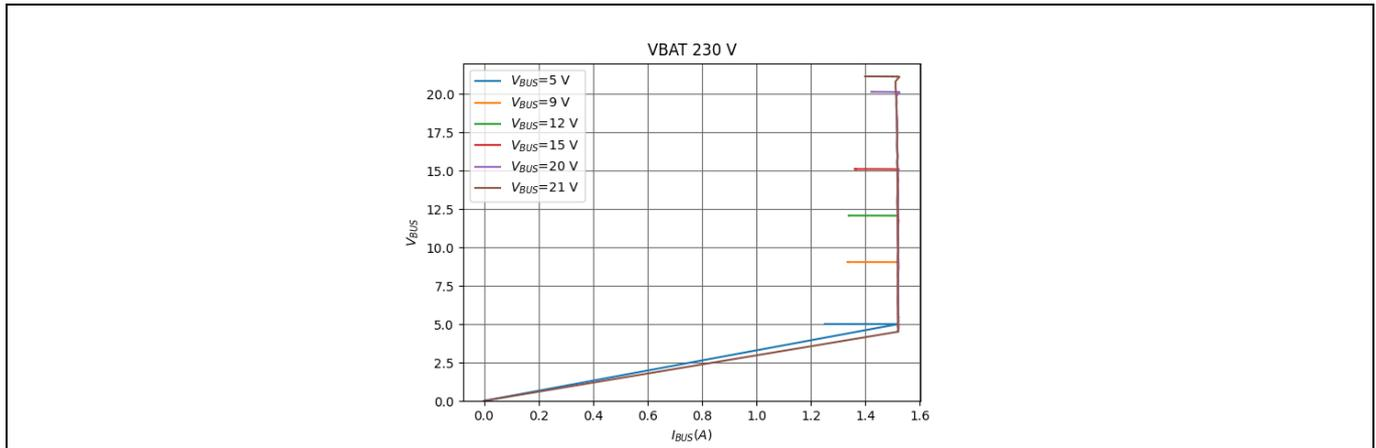
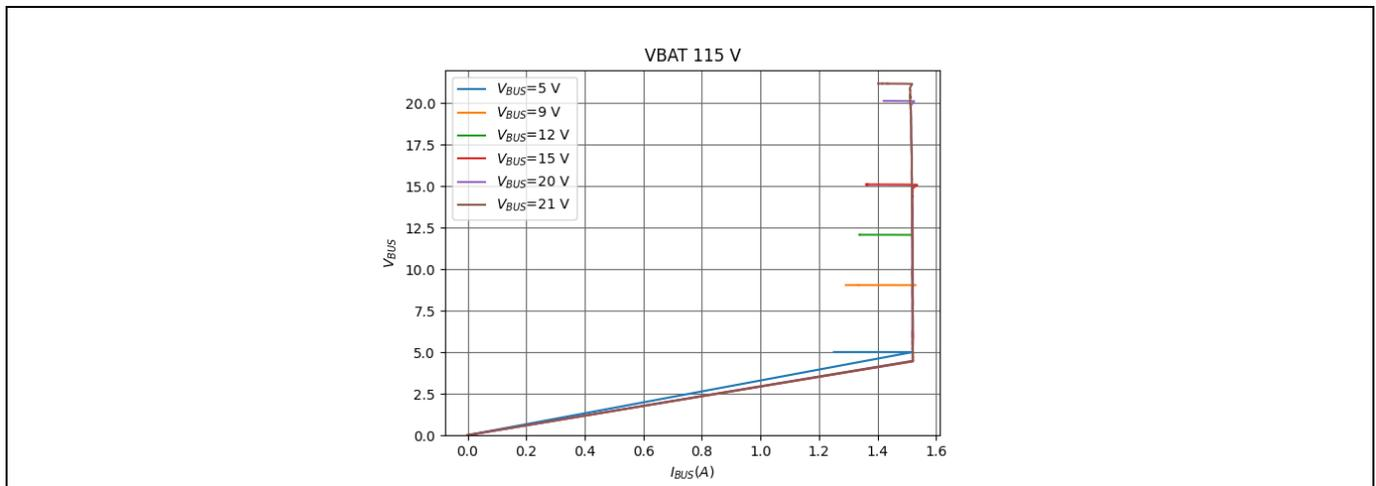

Figure 73 CC regulation curve at 230 V_{AC} input and 1.5 A output current
Figure 74 CC regulation curve at 115 V_{AC} input and 1.5 A output current
Output constant current (CC) regulation of each port measured at 1.5 A output currents are shown in Figure 73 and Figure 74.